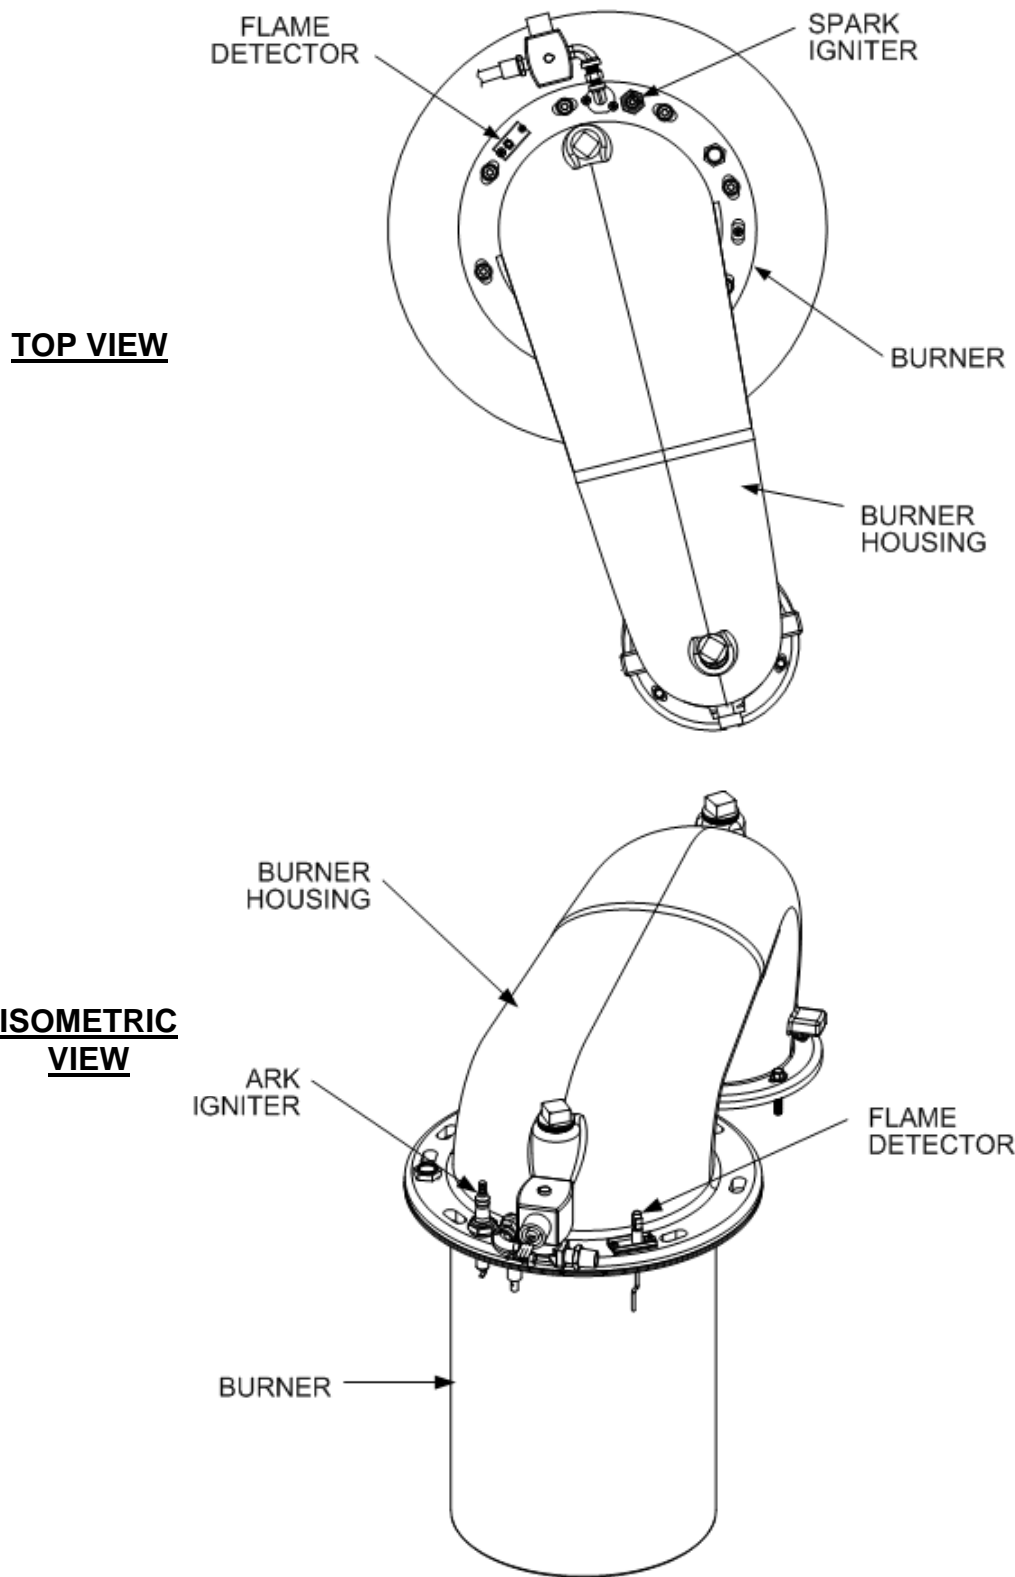

Figure 2: BMK 3.0LN Burner Assembly (Top and Isometric Views)
- Benchmark 3.0LN and Benchmark 2.0LN (Venturi Design) models utilize identical burner housings and look identical when installed in their respective heat exchangers. However, the Benchmark 3.0LN contains a burner insert which is longer than the Benchmark 2.0LN (Venturi design). See Figure 2.
The spark igniter and flame detector replacement procedures for each Benchmark Low NOx model are identical. Therefore, refer to Figure 2 or Figure 3 for the locations of the igniter and flame detector to be replaced in your model when performing the procedures in the following paragraphs.
1. Refer to Figure 2 (Benchmark 3.0LN), or Figure 3 (Benchmark 1.5LN & 2.0LN) for the installed location of the spark igniter.
6. Refer to Figure 2 or 3 and install the replacement igniter in the appropriate location. Do Not over-tighten. A slight snugging up is sufficient.
1. Refer to Figure 2 (Benchmark 3.0LN & 2.0LN Venturi design), or Figure 3 (Benchmark 1.5LN & 2.0LN VFD design) for the installed location of the flame detector and gasket.